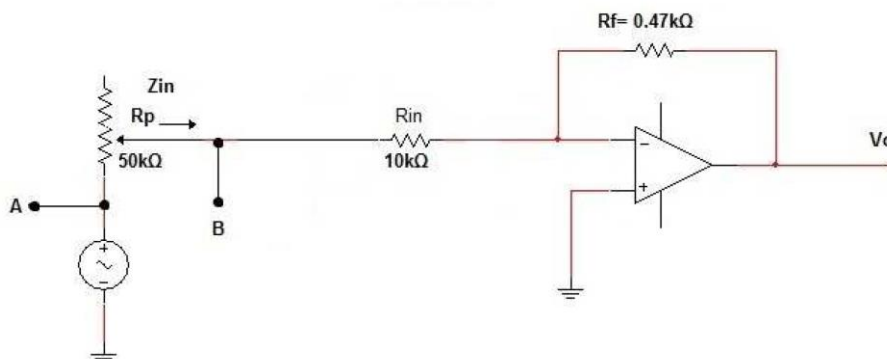

Figure 2.2
- While the power supply is off, construct the circuit shown in Figure 2.2.